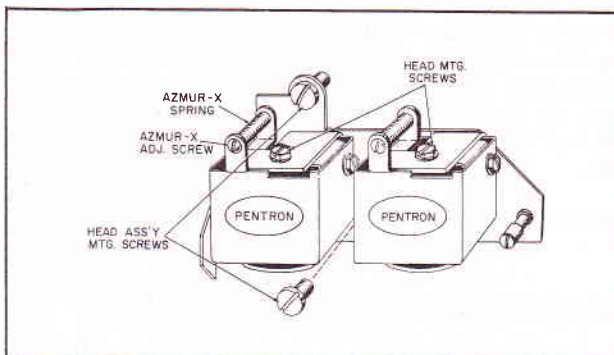

Figure 6. Head Adjustment Points.
Remove the #6-32 Phillips Oval Head Mounting screw (6) and the Head Cover Casting (5). This will give access to the heads. Unsolder the head leads at the head plug socket or at the terminal lugs. Loosen the Azmur-X adjustment screw and the head mounting screw (see Fig. 6). The head can now be replaced.